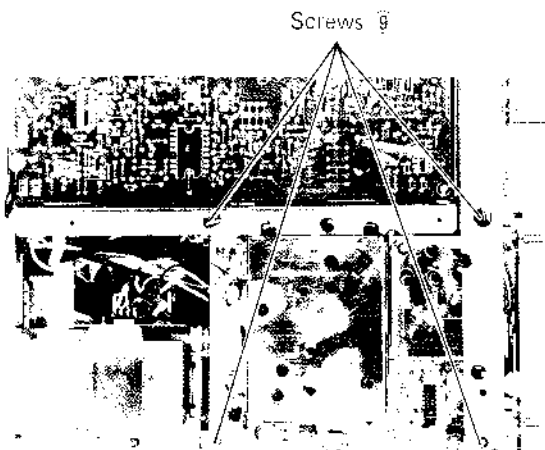

Fig. 4-14
3. Remove the four screws **9** on the printed circuit board as shown in Fig. 4-14.